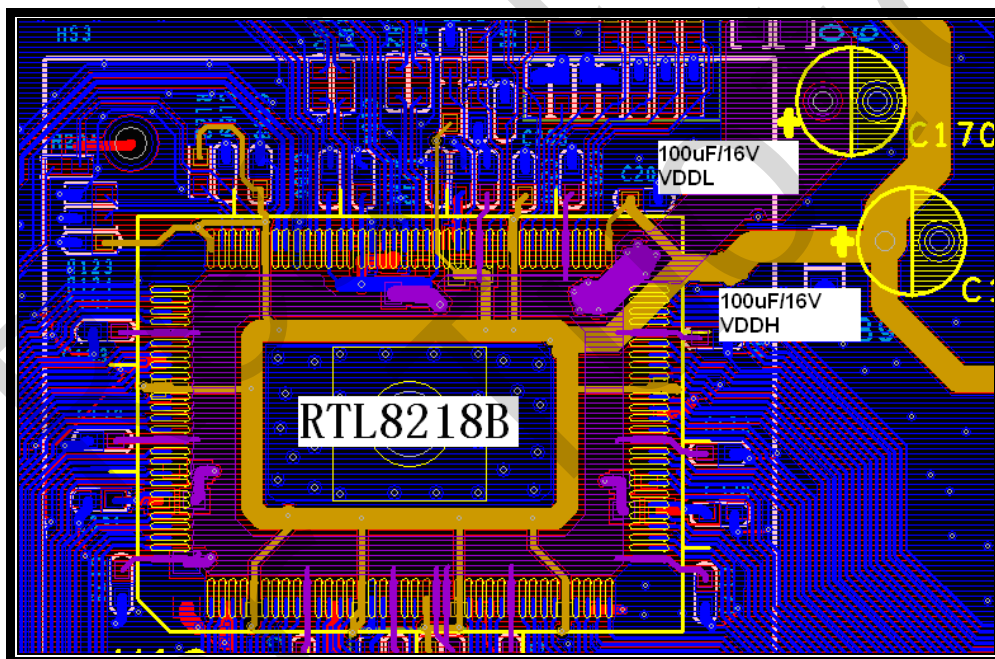

**Figure 5. Power Planes**
- 2) Keep the power trace in the top layer with might and main.(See Figure 5)